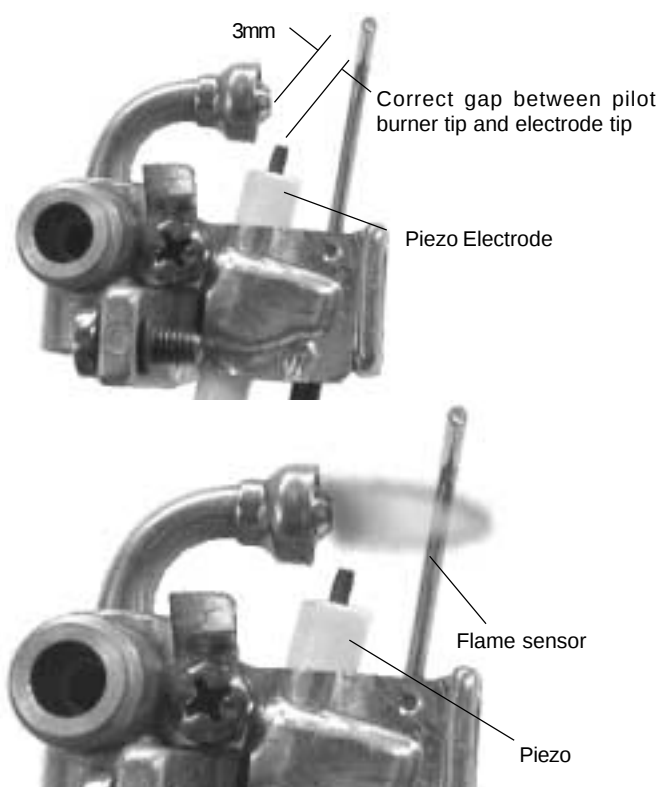

Fig. 10 - Characteristic Pilot Flame
Pilot Flame: The pilot flame should burn with a clean, sharp, blue flame and should resemble the diagram in Fig. 10. If the flame is soft and yellow, the pilot burner orifice may need to be cleaned or replaced. The pilot flame should be approximately 2 inches long, extending past the flame sensor. If the flame is too small, it will not reach the flame sensor and the burners will not come on.
2. **Confirm the flame sensor is in its proper position and clean, lightly wipe clean if dirty.** See Fig. 10